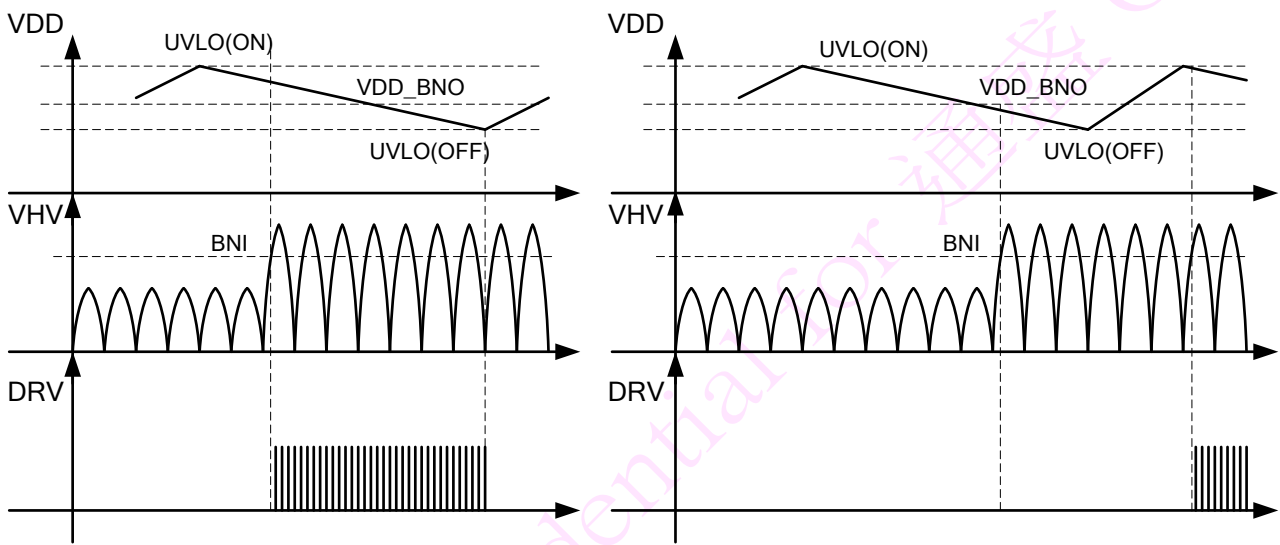

Fig. 5.2
The WT7161RM features brown in/out protection on HV pin. When HV pin voltage (VHV) goes above brown-in threshold (BNI) and $VDD > VDD_BNO$ (13.5V), the controller can start immediately. Otherwise, the controller actually starts the next time VDD reaches UVLO (ON), as shown in Fig. 5.2. When VHV goes below brown out threshold (BNO) for more than a de-bounce time, the controller will stop switching. The WT7161RM has four brown in/out detect thresholds, which set by a resistor between VDD and COMP pin. The setting table 5.1 is shown as below.